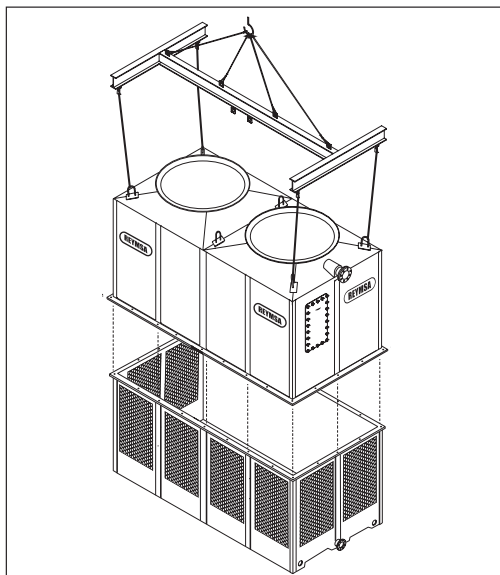

Figure A-55: Body section assemble for a Modular Tower (RTM-B)
- I. Assemble body section #1 (for RTM-B) with the basin section #1, making sure that the bolt holes on body section #1 are aligned with the perforations on basin section #1, then bolt down and secure the horizontal flanges with the stainless steel nut and bolt sets supplied by REYMSA (see Figure A-55 for reference).